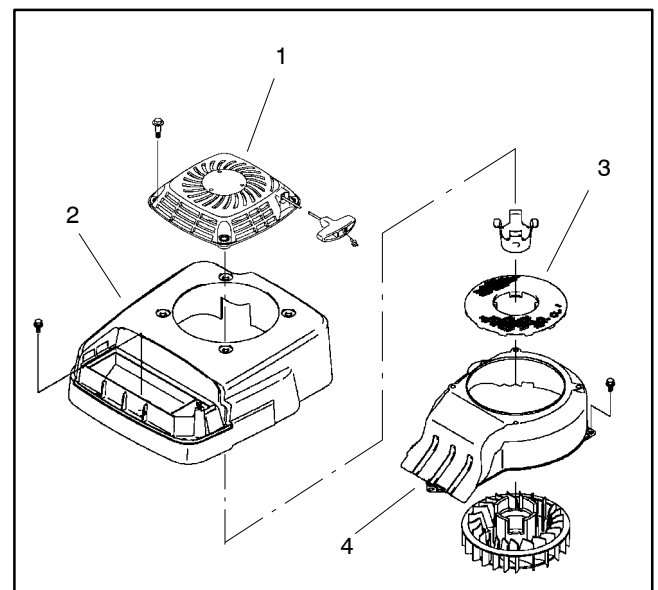

Figure 3
3. If necessary, remove engine cover, rotating screen and blower housing from engine (Fig. 3). Clean blower housing and engine cooling fins of dirt and debris.